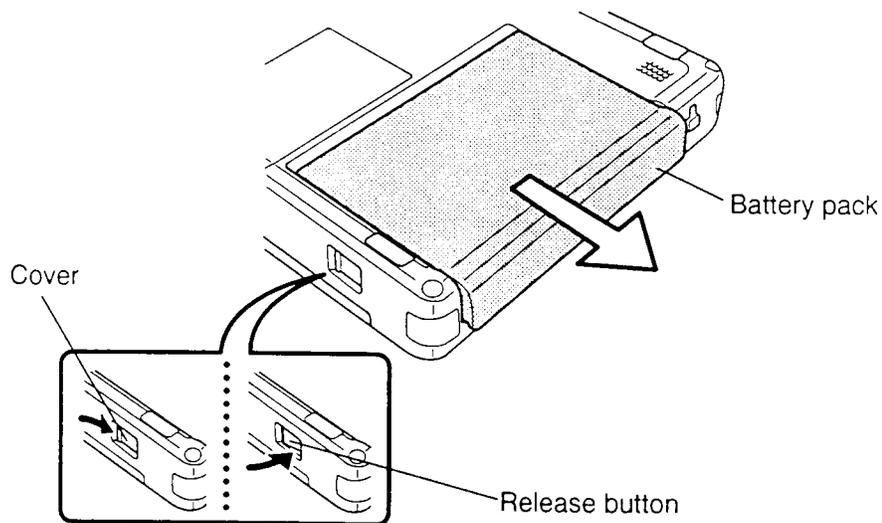

Figure 4-1 Removing the Battery Pack
To remove the computer's battery pack, follow the steps below and refer to Figure 4-1.
3. Slide open the **cover** to the battery latch and press the **release button** until it clicks. The battery will pop out slightly (Figure 4-1).
4. There is a second safety latch that holds the **battery pack** after the **release button** is pressed. To clear the second latch, insert your fingers in the gap between the computer and the **battery pack** and push carefully with one hand until the **battery pack** is free (Figure 4-1).
5. Firmly grasp the **battery pack** and pull it out (Figure 4-1).
To install the computer's battery pack, follow the steps below and refer to Figure 4-1:
2. Push the **battery pack** in until it locks into place (Figure 4-1).